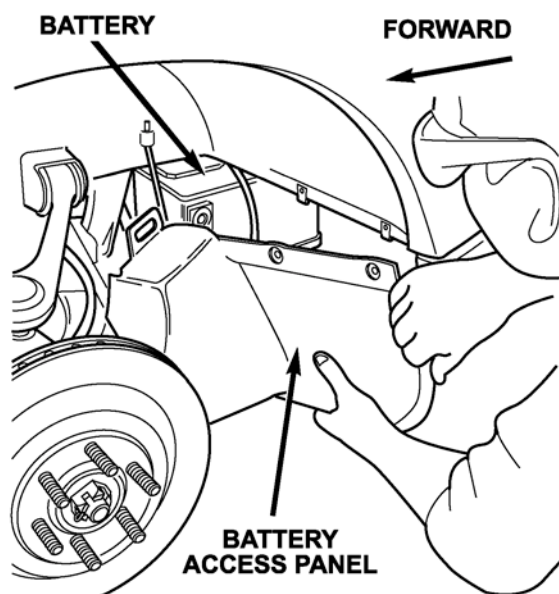

Figure 2
2. Remove the fasteners that attach the battery access panel (Figure 2) and remove the panel.